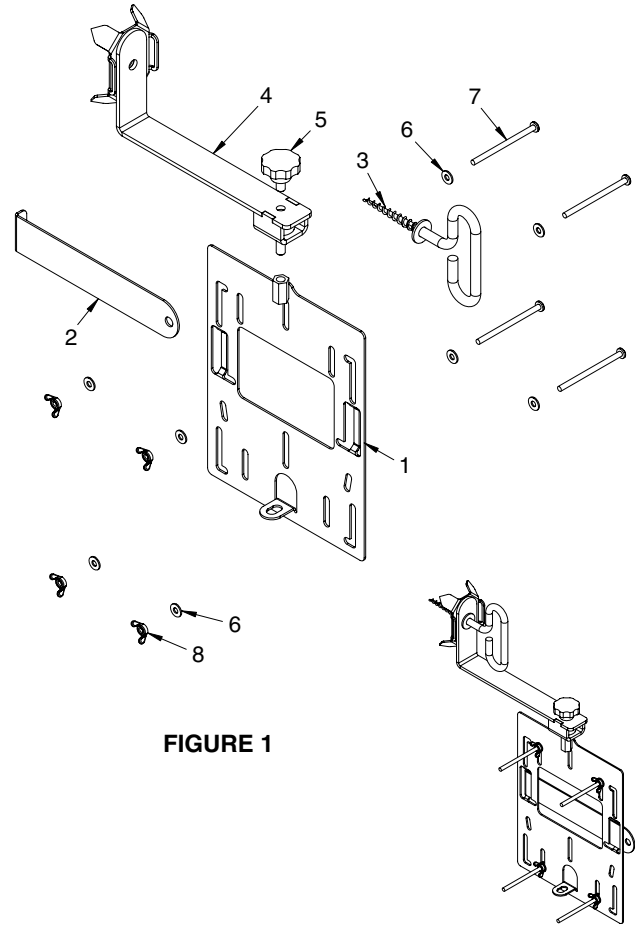

FIGURE 1
1. Center the stud on ball swivel and lock in place using provided knob bolt (48741). Slowly thread mounting plate (48493) onto the stud protruding of ball swivel until it is tight. **SEE FIGURE 1.**
2. a. Attach your trail camera to the mounting plate using (4) provided 10-24 x 3" phillips head screws, washers and wing nuts. Choose any of the holes/slots that align best with the mounting options you camera has.
c. Use (2) provided bungee cords with hooks (48052) if additional mounting is desired by stretching bungee cord around front of camera and hooking the two hooks together behind the mounting plate.